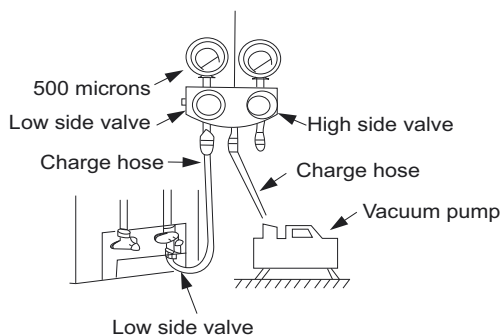

Fig. 48 — Manifold
3. Fully open the low side of manifold gage (see Fig. 48).